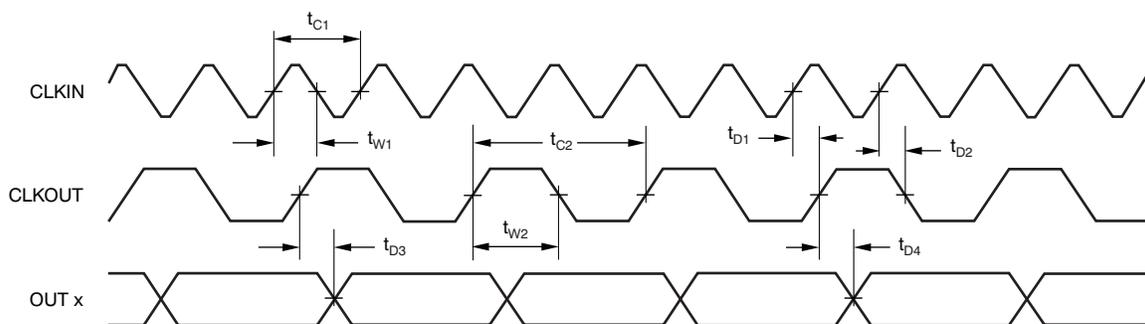

Figure 1. ADS1204 Timing Diagram
(1) Applicable for 5.0-V nominal supply: $\text{BV}_{\text{DD}}(\text{min}) = 4.5\text{ V}$ and $\text{BV}_{\text{DD}}(\text{max}) = 5.5\text{ V}$. All input signals are specified with $t_{\text{R}} = t_{\text{F}} = 5\text{ ns}$ (10% to 90% of BV_{DD}) and timed from a voltage level of $(V_{\text{IL}} + V_{\text{IH}}) / 2$. See Figure 1.
(1) Applicable for 3.0V nominal supply: $\text{BV}_{\text{DD}}(\text{min}) = 2.7\text{ V}$ and $\text{BV}_{\text{DD}}(\text{max}) = 3.6\text{ V}$. All input signals are specified with $t_{\text{R}} = t_{\text{F}} = 5\text{ ns}$ (10% to 90% of BV_{DD}) and timed from a voltage level of $(V_{\text{IL}} + V_{\text{IH}}) / 2$. See Figure 1.